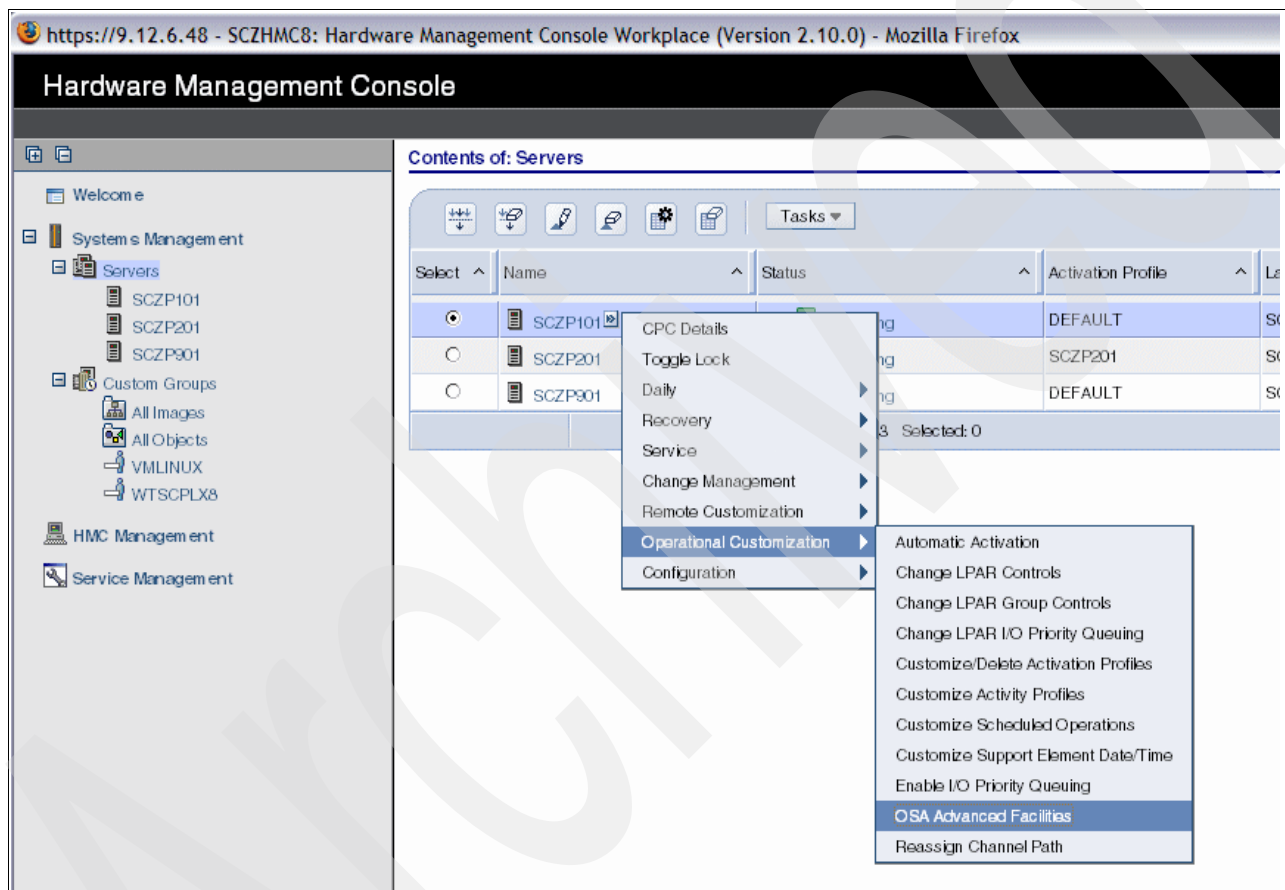

Figure 4-36 HMC - OSA Advanced Facilities (Popup Menu)
- b. Click the small pop-up menu arrow just after the CPC name and use this to expand to and select the **OSA Advanced Facilities** menu (Figure 4-36).